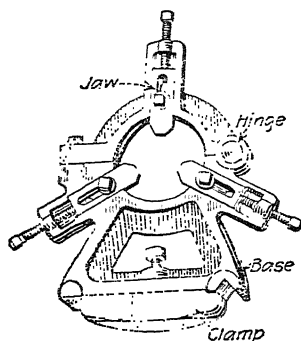

FIG. 99.
**119. The Center Rest.**—The center rest, or steady rest (Fig. 99), is a very valuable accessory to the lathe when slender pieces of any considerable length are to be turned. The base is planed to fit the inside ways of the lathe and by means of a clamp the